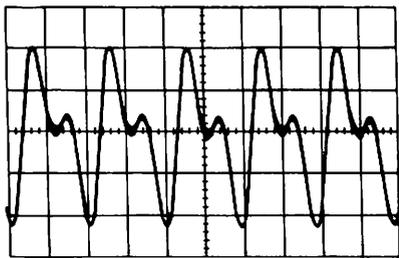

Fig. 1-6-5 RMS Symmetry Adjustment (Incorrect)
2. Adjust R135 to obtain a clean 200 Hz sine-wave on TP01 (see Figs. 1-6-5 & 1-6-6).
2. Check for clean 200 Hz sinewave at TP01 (see Figs 1-6-5 & 1-6-6).